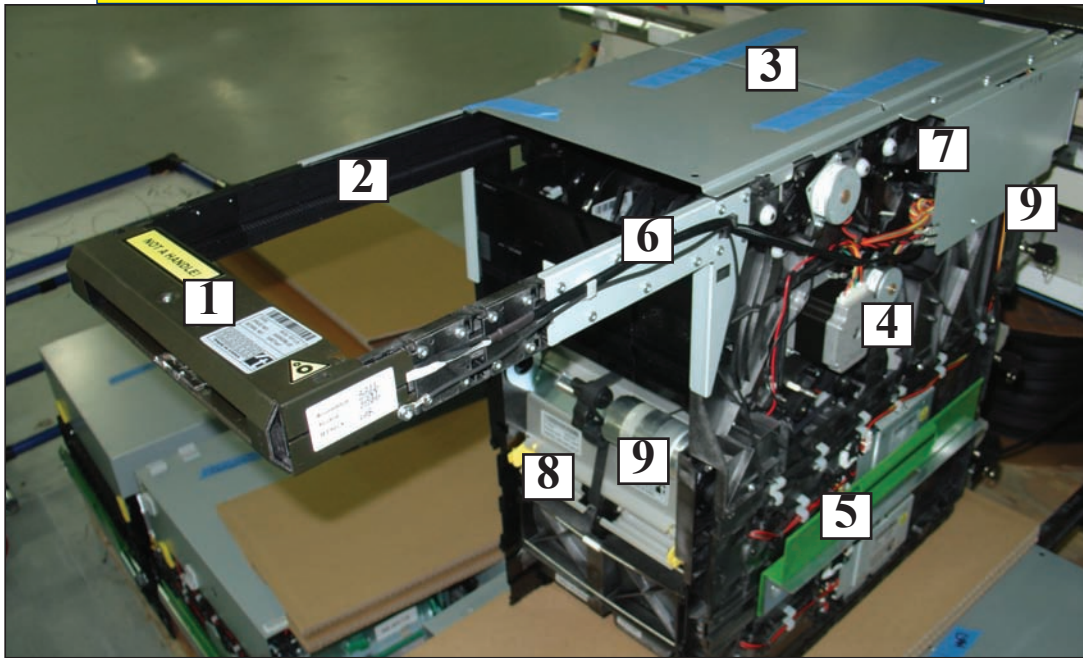

Figure 1
4. **Lift handles will not be shipped with unit.** To remove unit, reach in front and behind main unit to grip cassette tray plate located in front of unit, (**see figure 3**) and main motor housing at rear, (**see figure 1, 4**). Lift main dispenser unit straight up to remove from inner box. Place unit on a sturdy work table to complete assembly. Use screws provided in handle mount bracket to install handles from original unit for future lifting.
5. Examine dispenser unit and parts for any noticeable damage that may have occurred during shipping. Inspect wiring connections. Observe outside and inside areas of dispenser unit to detect cracks or other damage. Ensure note qualifier doors (**see figure 1**) are snapped closed. Pay attention to note stacker motor and mounts on electronics side of dispenser, (**see figure 1**). Attach original lift handles with screws included in kit.